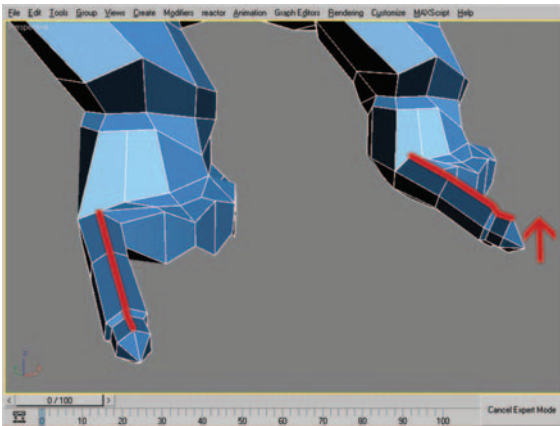

Figure 9.66 Edge selection before and after moving with the Move tool.
28. Select the edges shown in Figure 9.66 (left) and use the Move tool to move them upward. This move creates a taller profile to the finger (Figure 9.66, right).